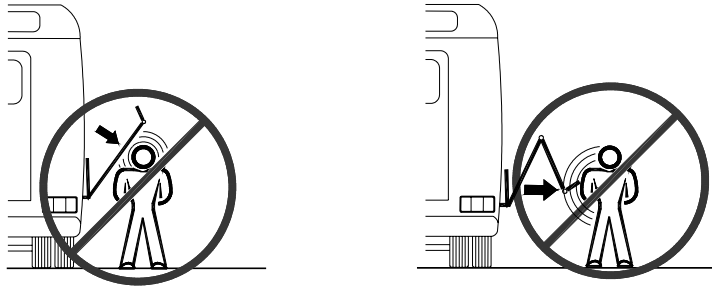

FIGURE 2-3: STAND CLEAR OF LIFT
- Refer to **Figure 2-3**. Do not stand in front of lift while deploying platform.